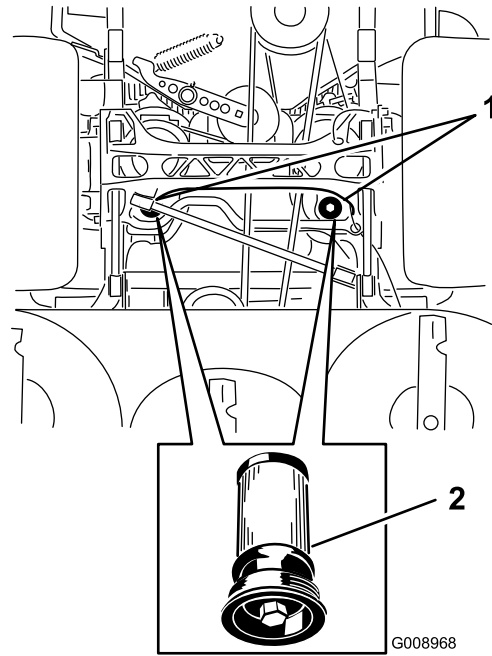

Figure 85
5. Place a drain pan under the filter, remove the old filter, and wipe the surface clean (Figure 85).
6. Apply a thin coat of hydraulic fluid to the rubber gasket on the replacement filter (Figure 85).